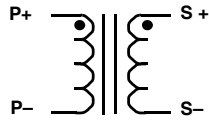

FIGURE 22A. FULL BRIDGE AND CURRENT DOUBLER
**Self-driven Rectifiers-** For low output voltage applications, both FETs can be driven by the voltage across the secondary winding. This can work with all kinds of main transformer configurations as shown in Figures 22A through 22D.